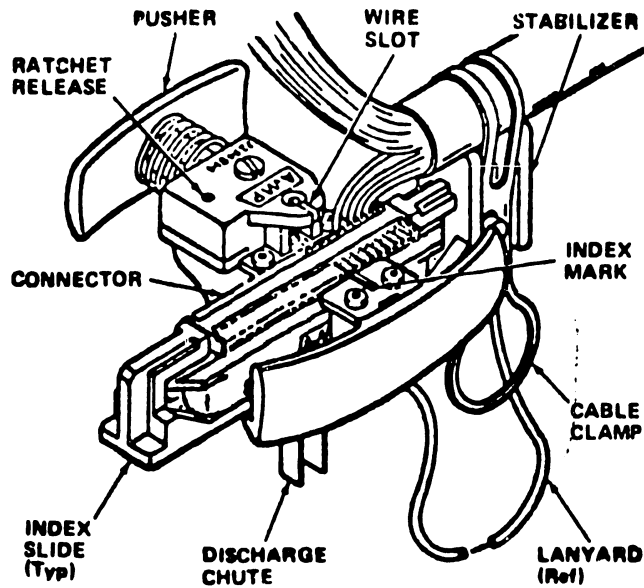

FIGURE 4-77
- 1) Position the connector in the index slide, attach the I/O cable to the index slide, and slide the index slide into the palm inserter as indicated in Figure 4-77.